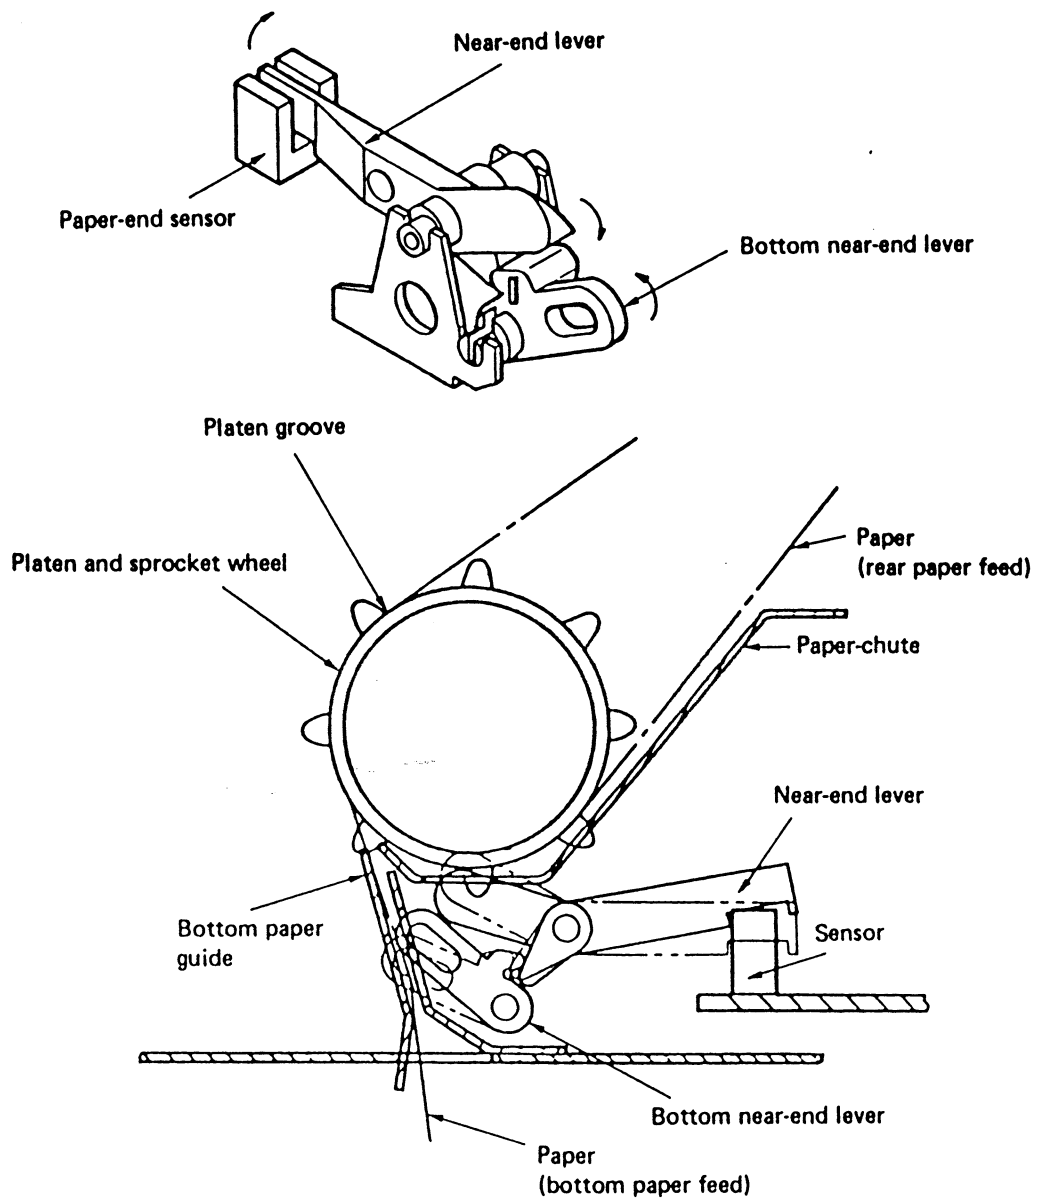

Figure 9
3.2.6 Paper-End Detection Mechanism (see figure 9)